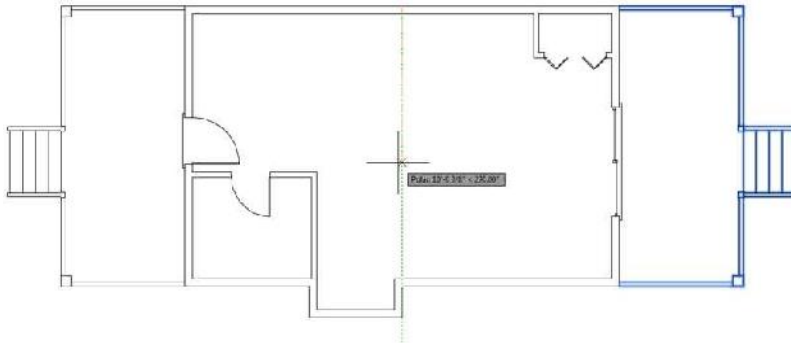

FIGURE 5.28: Mirroring the front deck to the rear of the cabin
6. Move the cursor downward. With Polar Tracking active, the cursor is restricted to the 270 angle, causing the deck to be mirrored perfectly to the rear of the cabin, as shown in Figure 5.28.